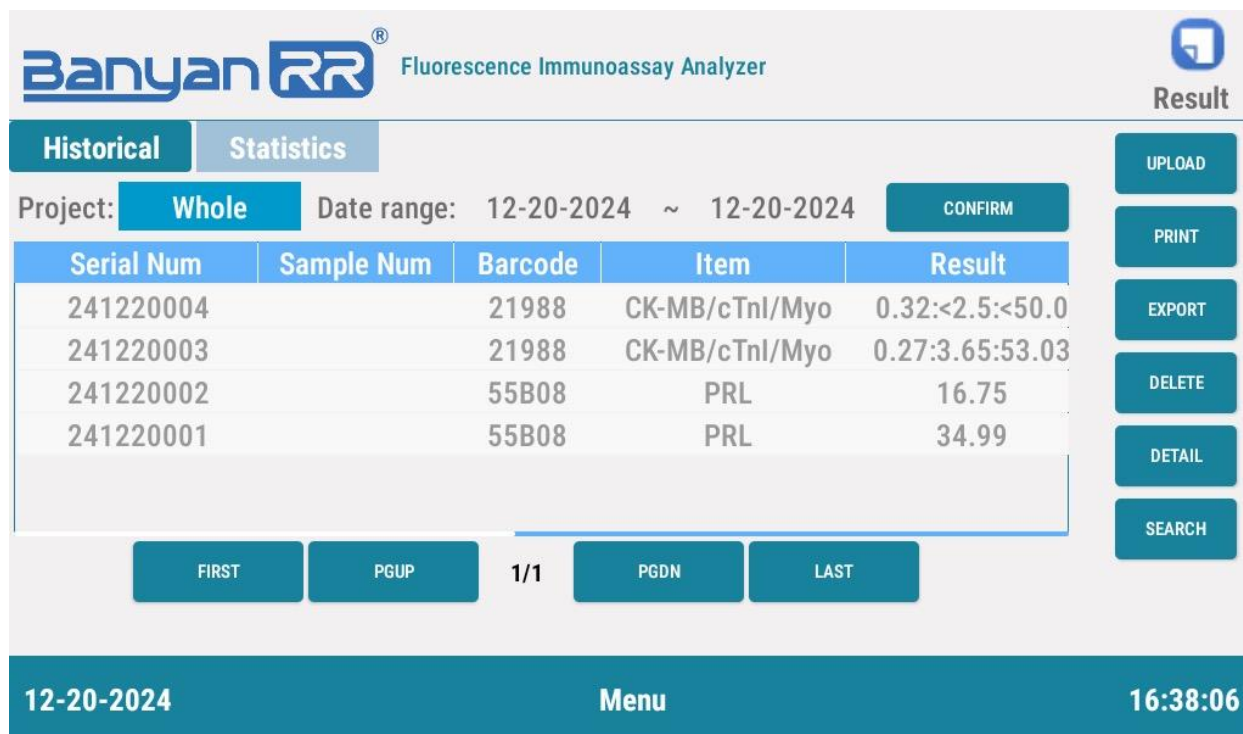

Fig. 4.4
3. Click [Date] in Fig. 4.4, select the date range to be viewed, and click [CONFIRM] to view
5.Click [UPLOAD] in Fig. 4.4, you can choose to upload the selected records or upload them all;
6.Click [PRINT] in Fig. 4.4, you can choose to upload the selected records or print them all;
7.Click [EXPORT] in Fig. 4.4, you can choose to upload the selected records or export them all;
8.Click [DELETE] in Fig. 4.4, and then select a single history record to view detailed information;